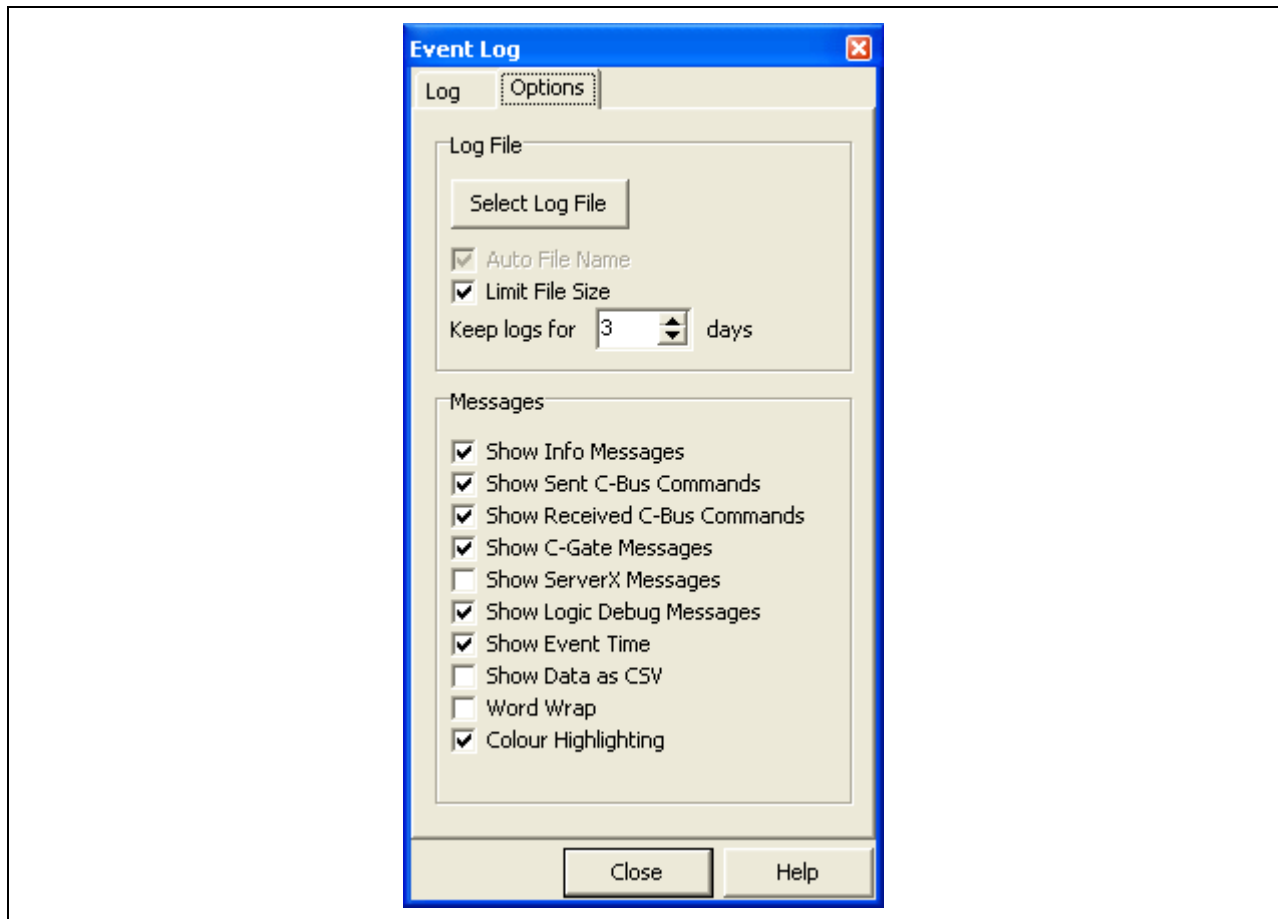

Figure 2: Schedule Plus logging options.
- Setup the logging messages on the 'Options Tab' as shown in Figure 2.